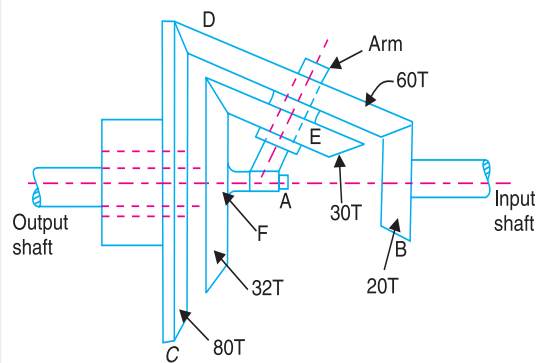

Fig. 13.23
**Example 13.17.** In a gear train, as shown in Fig. 13.23, gear  $B$  is connected to the input shaft and gear  $F$  is connected to the output shaft. The arm  $A$  carrying the compound wheels  $D$  and  $E$ , turns freely on the output shaft. If the input speed is 1000 r.p.m. counter-clockwise when seen from the right, determine the speed of the output shaft under the following conditions :